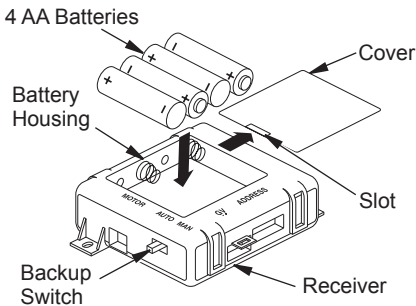

Figure 13 - Installing Batteries in Receiver
1. Locate slot on battery cover of receiver (see Figure 13). Firmly insert tool such as a small screwdriver, butter knife, or dime into the slot and lift up to remove cover.